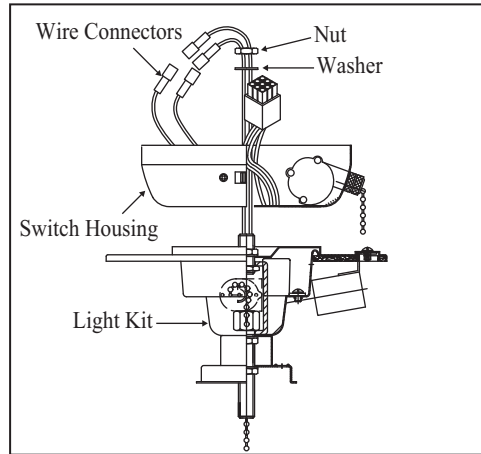

Figure 18
1. Disassemble the switch housing from the light kit, you can keep the light kit for future use. (Fig. 18)